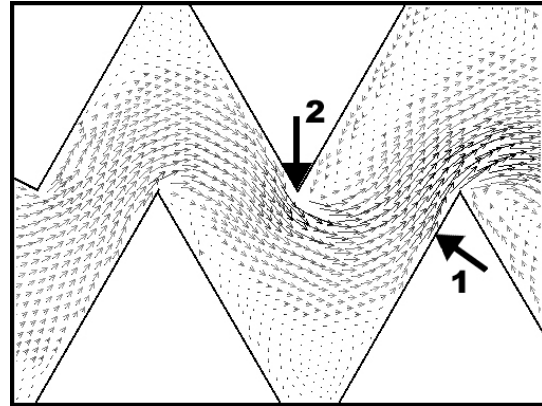

Figure 14.10.3: Sudden Expansion and Contraction Caused by Tiger-Tooth Design
Figure 14.10.3 illustrates this mechanism. Each channel is designed with narrow constricted passages (1) on either side of the expansion points (2). In this figure, the fluid velocity vectors lengthen as the velocity increases, and darken as the pressure decreases.